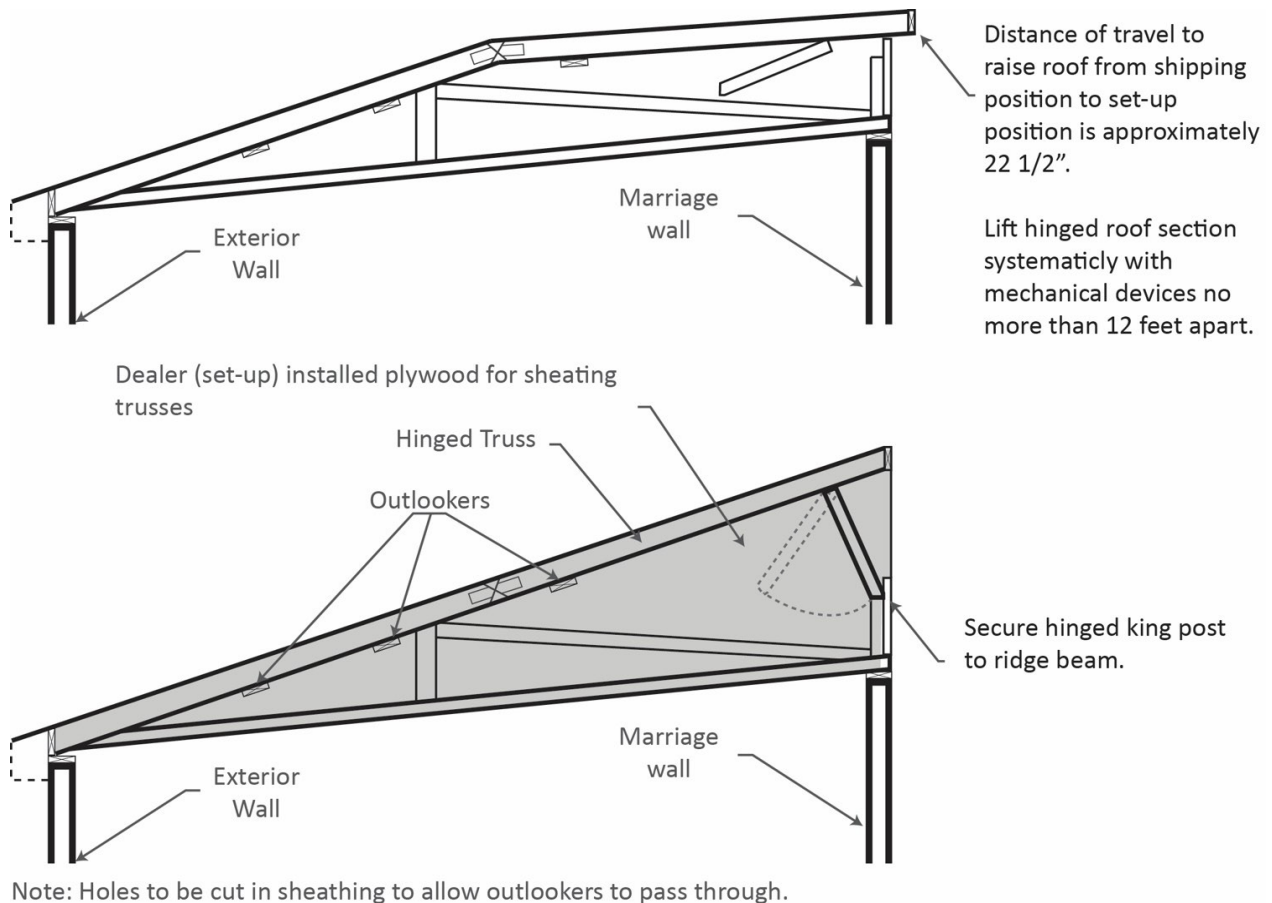

Figure 23 - Installation of hinged roof.
- **Securing king post:** The hinged king post which is commonly known as a knee wall is positioned atop the fixed king posts or against the wooden stop. They are positioned as needed to level the roof, aligning each king post with the king post directly beneath it, and fastened in place following the installation instructions provided by the manufacturer (Figure 23).